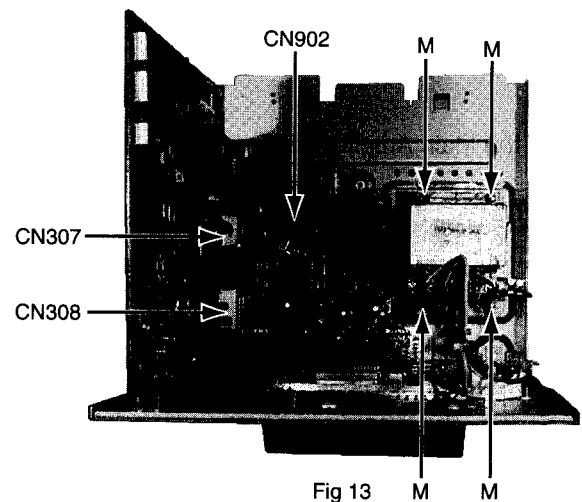

Fig 13
6. Use a screwdriver, etc., to disengage the two engagements bottom chassis clips ④ and ⑤ from the bottom part of the side panels of the rear panel assembly.
7. Disconnect the parallel wires protruding from the power supply board from connector CN902 of the power amplifier board. (See Fig 13)
3. Disconnect the main amplifier board connectors CN307 and CN308 from the power amplifier board. (See Fig 13)